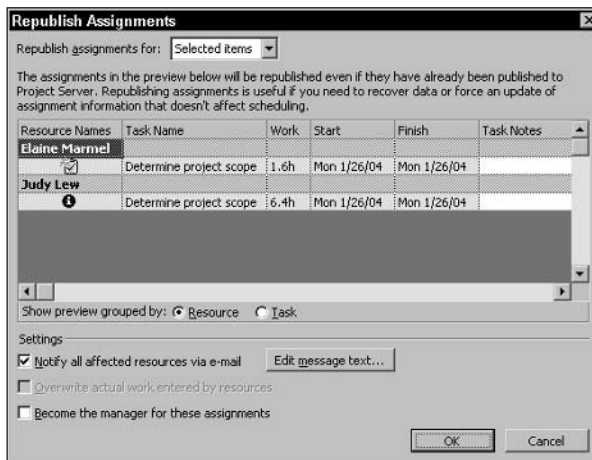

Figure 20-20: Use this window to send notice of work assignments to resources.
3. When you choose Republish Assignments, Project displays the Republish Assignments dialog box, as shown in Figure 20-20, from which you can set options for updating assignments. Before you click OK, you can choose to do any of the following: